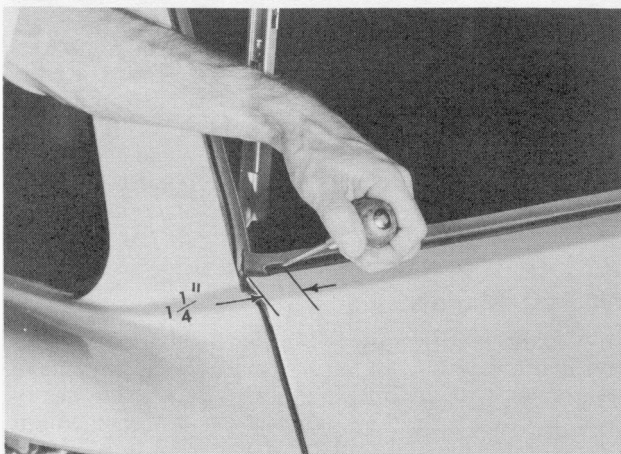

FIG. 7
2. Punch or drill a 7/64" hole thru the rubber weatherstrip and thru the outer panel of the tail gate channel at the lower intersection of the vertical and horizontal section of the outer panel 1-1/4" from the outer end of the gate. (See Fig. 7).